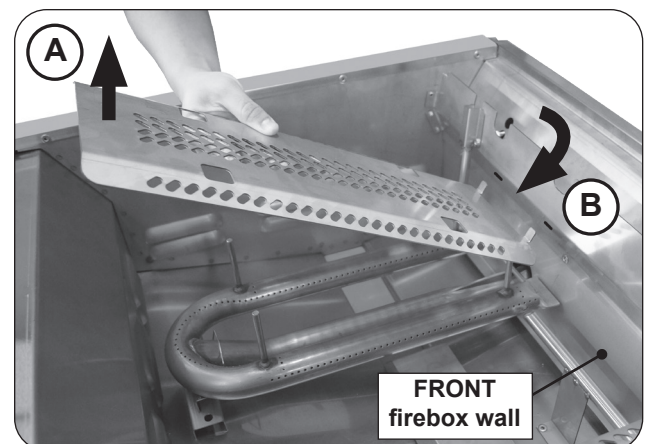

Fig. 39-4 Heat distribution grid(s) removal
2. Remove the grid(s) as shown in Fig. 39-4. Lift from the rear, and free the front tabs (on the grid) from the cutouts in the front firebox wall.